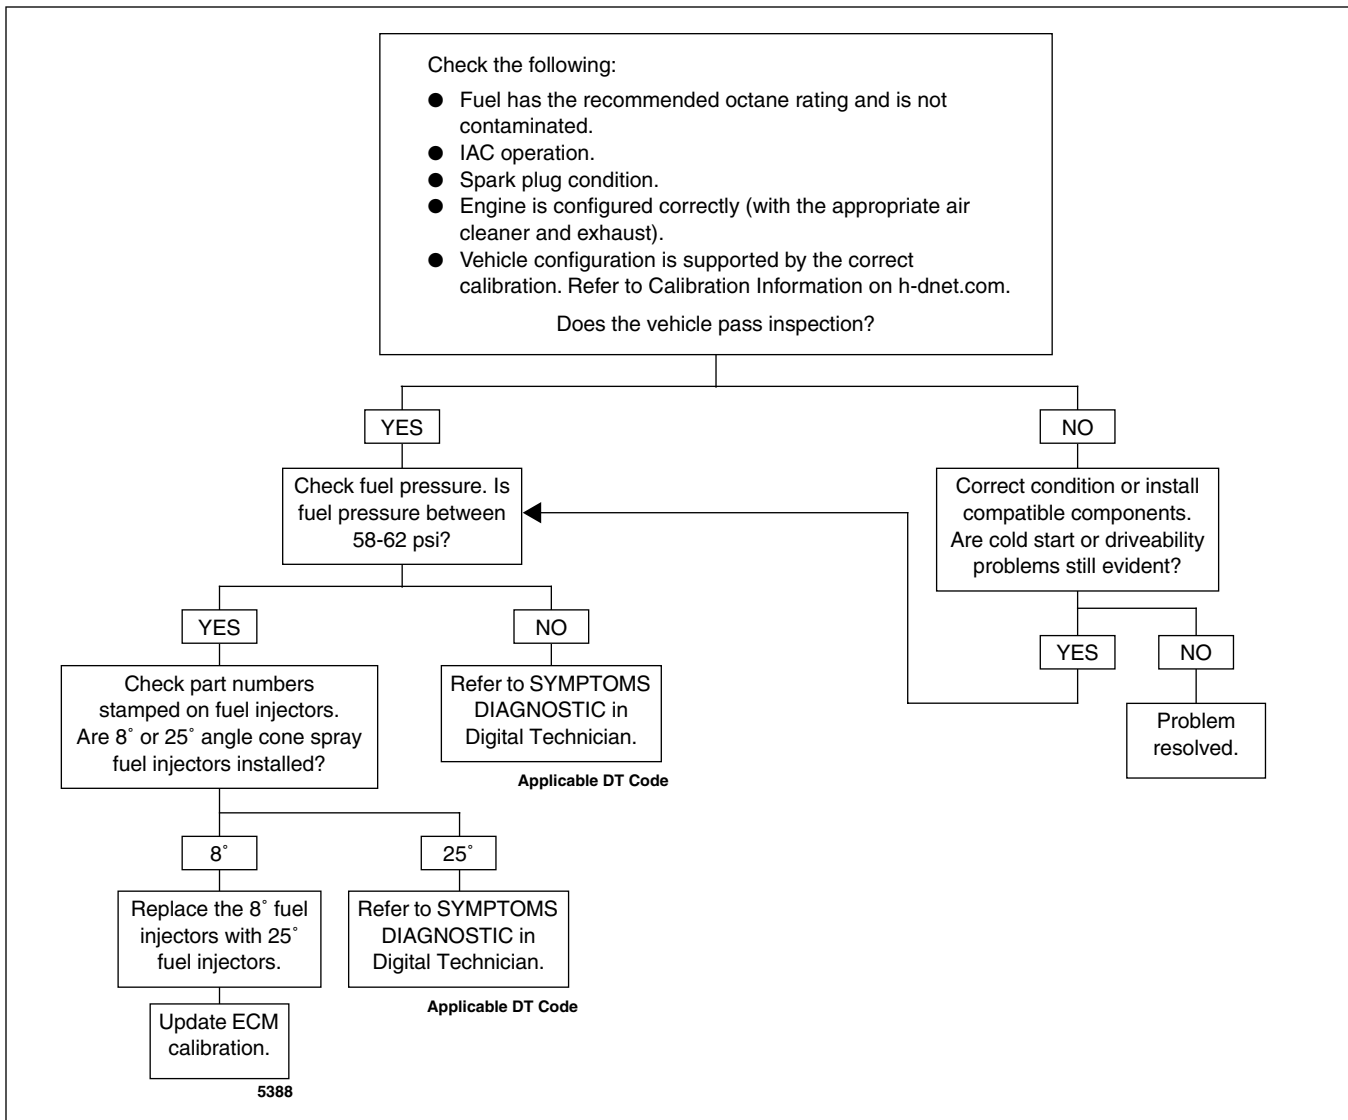

Figure 2. Cold Start/Driveability Flow Chart
1. Adhere to the flow chart in Figure 2 when handling customer complaints regarding cold start and/or driveability problems on affected motorcycles.